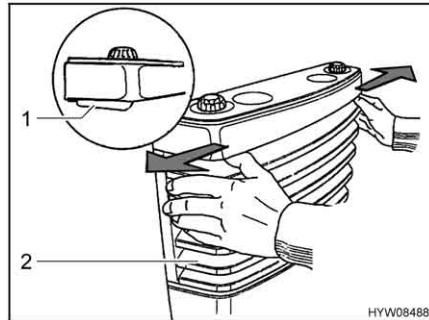

Fig. 146 Removing heater cover
- Remove heater cover (Fig. 146,2). To do this, press the two locking levers (Fig. 146,1) to the outside at the same time and tip the cover forwards.